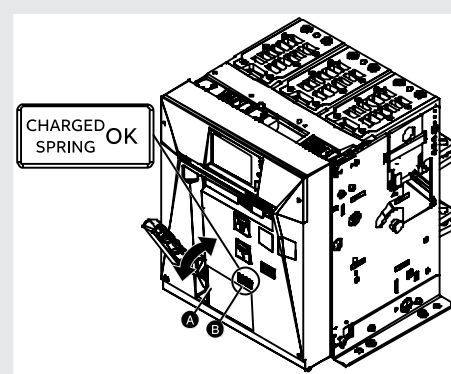

Figure 59
2. Charge the springs by repeatedly pull lever [A] downward until the spring indicator [B] indicates “CHARGED SPRING - yellow colour”, as illustrated in Figure 59.